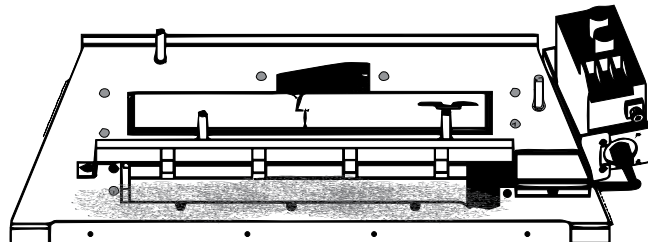

Figure 5.10 - Installing Rock Wool
1. Before installing logs, place rock wool in front of the grate. Loosely apply nickel size pieces to allow the gas to flow through for proper burn and not to be obstructed. Failure to do so would cause a higher level of CARBON MONOXIDE. See Figure 5.10.